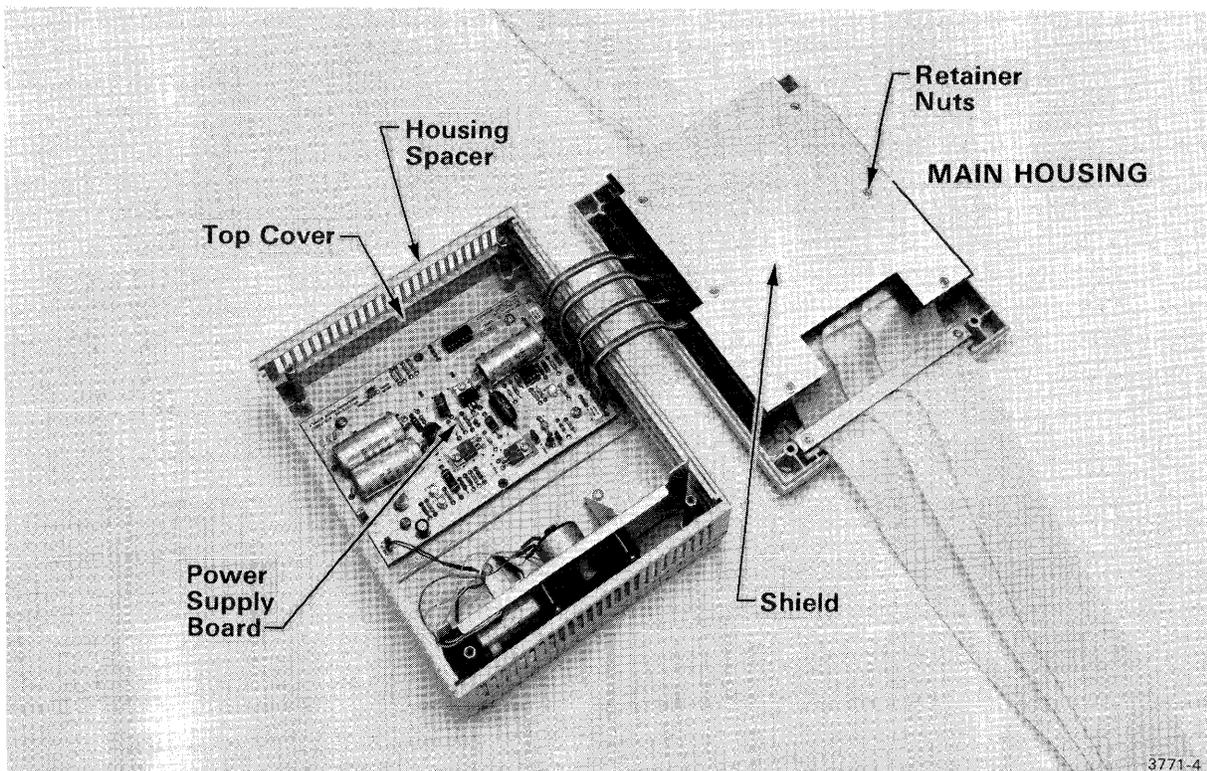

Fig. 2-1. Access to Power Supply board.
3. Remove the top cover of the Interface Assembly and set it beside the main housing (see Fig. 2-1).
4. Lift the housing spacer and rotate it to set on the top cover (see Fig. 2-1).